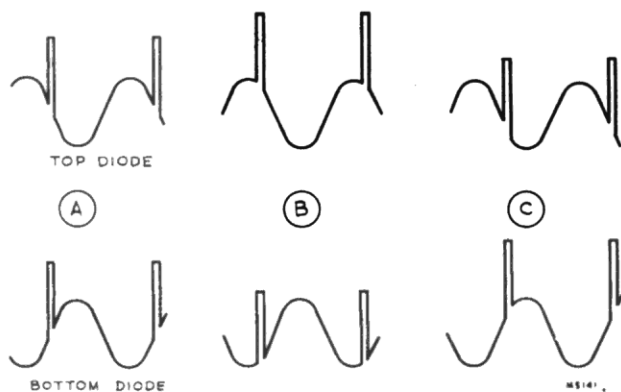

Figure 8—Sync Discriminator Waveforms
Coils L1 to L9 and L2 to L10 are unusual in that they are wound in figure 8 fashion on fingers protruding from the switch wafer. This winding form produces a relatively non critical coil since the coupling between turns is minimized. A maximum amount of wire is used for the small inductance which is required, thus permitting greater accuracy in manufacturing.
R-F Oscillator—The oscillator line is similar except that trimmer adjustments are provided for each channel and the low frequency coils are not figure 8 windings. For tuning each channel, brass screws are used in close proximity to the high frequency tuning straps L66 to L76, and brass cores are adjusted through coils L54 to L62. It is obvious that the high frequency adjustments should be made before each lower frequency one.
The sine wave oscillator voltages applied to the plates of V123 are equal in amplitude and opposite in phase. The synchronizing pulses from the second sync amplifier are fed through a differentiating network to attenuate the vertical sync and then applied to the center tap of T108. The horizontal sync pulses thus appear in phase and of equal amplitude on the diode plates as shown in Figure 8. When the pulse and sine wave are properly phased as in (A), both diodes will produce equal voltage across their load resistances, R191 and R192. However, these voltages are of opposing polarity and therefore the sum of the voltages across these two load resistors will be zero. If the phase of the pulse changes with respect to the sine wave as in (B), the top diode will produce more voltage across R191 than the bottom diode produces across R192. Thus, the voltage across the two will be positive. In (C) the reverse condition exists. It is obvious that the output of the discriminator can swing from positive through zero to negative dependent upon the phase relation of the synchronizing signal and the oscillator. This d-c output is applied to the grid of V124.